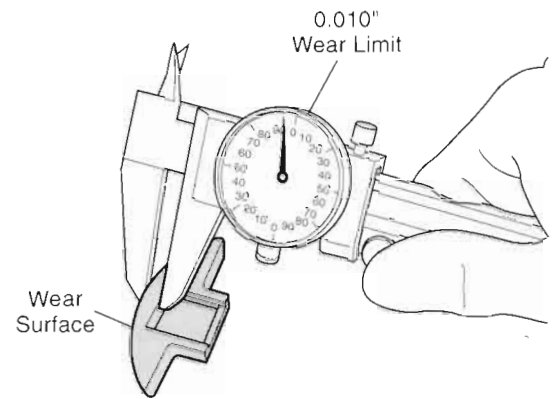

Figure 6.18 Measuring Shoe Wear
STEP 3. Inspect the clutch shoes for wear and for damage from overheating. Wear limit for clutch shoes is .010" (.25 mm) when compared with new parts (Figure 6.18).